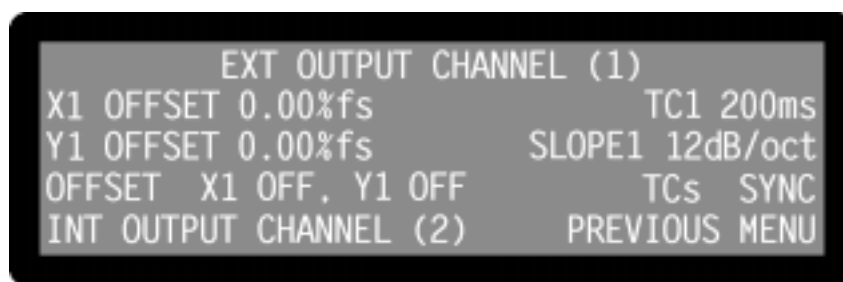

Figure 5-43, Ext Output Channel (1) Menu
**5.5.04 Ext Output Channel (1) Menu**
When in dual reference mode, pressing a key adjacent to the Output Channels item on the Main Menu accesses the Ext Output Channel (1) menu, shown in figure 5-43.